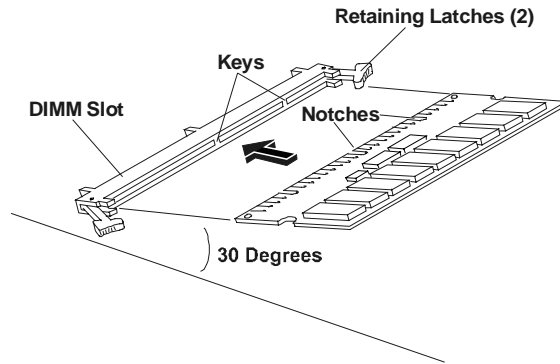

Figure 4-3. Aligning the DIMM
7. Spread the two retaining latches on the slot outward. See Figure 4-3.
- Align the notches on the DIMM with the keys on the slot. See Figure 4-3.
- Hold the DIMM at approximately 30 ° to the system board and press the DIMM *firmly and evenly* into the slot until the retaining latches close. See Figures 4-3 and 4-4.